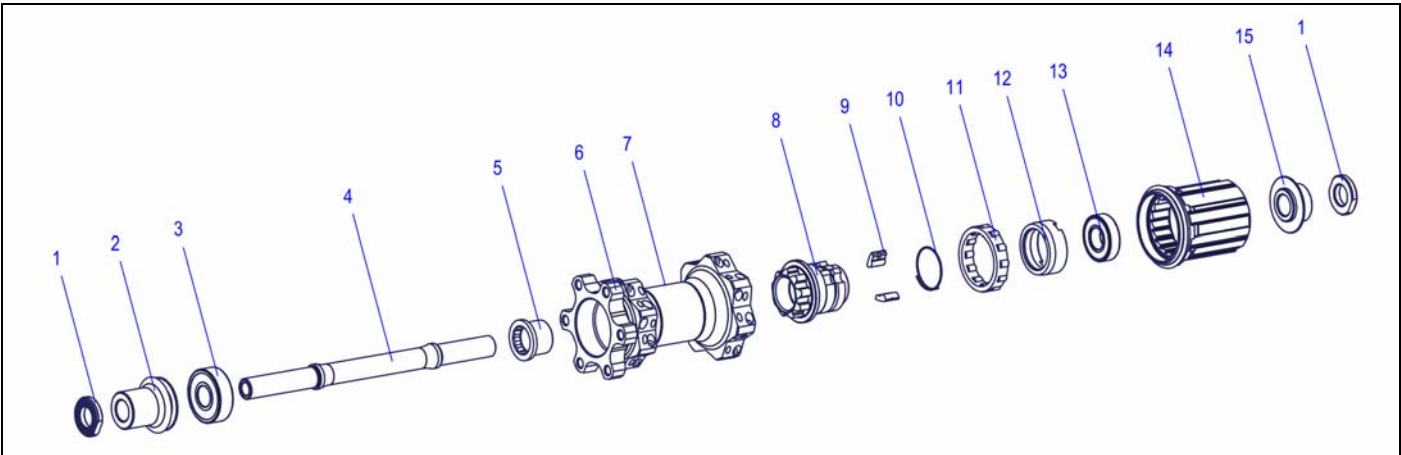

Figure 3-3: Overview Two Pawl System
2. Unscrew the knurled disc (fig.3-3/1) on the rotor side using a 17 mm wrench.
3. Remove the knurled disc (fig.3-3/1) and the adapter (fig.3-3/15).
4. Carefully slide the rotor (fig.3-3/14) off the hub.
6. Unscrew the knurled disc (fig.3-3/1) using a 17 mm wrench.
7. Remove the knurled disc (fig.3-3/1) and the adapter (fig.3-3/15).
1. Push the spring (fig.3-3/10) out of the groove using a flat screwdriver.
2. Slide the spring (fig.3-3/10) upwards and remove it.
3. Remove both pawls (fig.3-3/9).
4. Slide the needle cage (fig.3-3/11) upwards and remove it.
1. Dismount the bearing (fig.3-3/3) opposite to the drive side by hitting the axle (fig.3-3/4) with a nylon hammer.
2. Remove the bearing (fig.3-3/3) from the axle (fig.3-3/4).
3. Slide the axle (fig.3-3/4) through the bearing (fig.3-3/13) on the drive side.
5. Remove the bearing (fig.3-3/13) from the axle (fig.3-3/4).
The pawl (fig.3-3/5) carrier and the bearing shell (fig.3-3/12) must only be dismantled, if they are damaged!
2. Put the axle (fig.3-3/4) into the installation tool.
3. Slide the hub shell (fig.3-3/6) onto the installation tool and the axle.
4. Put the wrench for the bearing shell (fig.3-3/12) onto the bearing shell.
5. Unscrew the bearing shell (fig.3-3/12) using a 27 mm wrench.
8. Put the hub body (fig.3-3/6) onto the Allen key.
9. Turn the wheel anti clockwise and loosen the pawl carrier (fig.3-3/5).
- 11.** Remove the pawl carrier (fig.3-3/8) and the screw fitting (fig.3-3/5).
3. Clean the rotor (fig.3-3/14) with a mild cleaner.
7. Remove bad notches from the rotor (fig.3-3/14) using a file.
3. Put the screw fitting (fig.3-3/5) onto the Allen key.
4. Put the hub shell (fig.3-3/6) onto the screw fitting.
5. Put the pawl carrier (fig.3-3/8) into the hub shell (fig.3-3/6).
- 9.** Put the long side of the axle (fig.3-3/4) into the installation tool.
- 11.** Screw the bearing shell (fig.3-3/12) onto the pawl carrier (fig.3-3/8) by hand.
- 12.** Put the wrench for the bearing shell onto the bearing shell (fig.3-3/12).